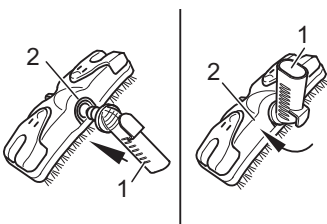

Fig. 3
2. Insert the jointed connection (Fig. 3/1), as shown, into the floor nozzle (Fig. 3/2).